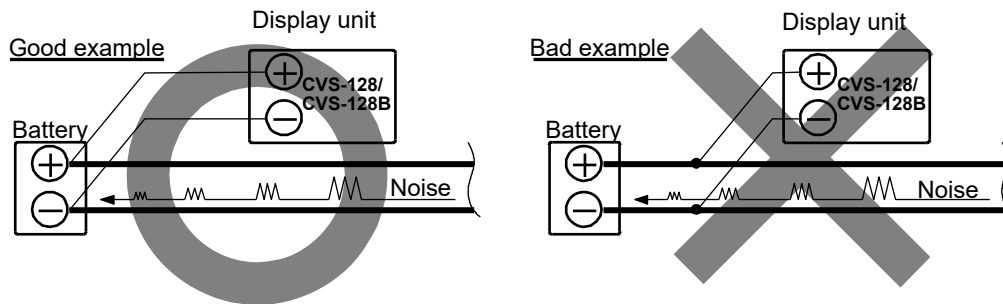

Fig. 5.1 Connection of Power Line
- (1) Keep the transducer and power cable as far away from the cables of other electronic equipment as possible.
- (2) The cabinet of Display unit shall be securely grounded to the hull, using the ground terminal on the rear panel.
- (3) If you connect the power cable directly to the battery, the interference from other electronic equipment is not subject to occurrence. (See Fig. 5.1.)